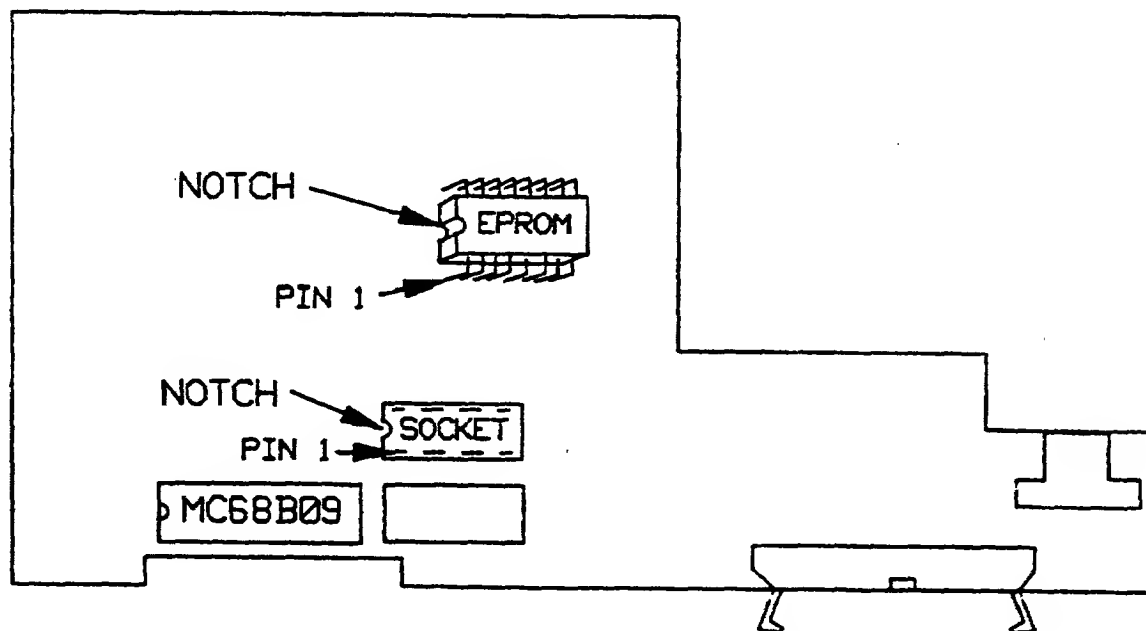

Figure 7-4. EPROM location on all interfaces.
5. Turn the printed circuit board over, placing the circuit side on the ESD mat. Place the board on the mat so that the interface connectors are facing away from you. See Figure 7-4.